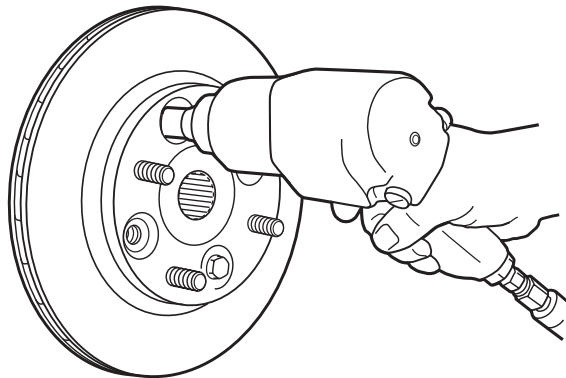

Figure 8
10. Remove the four fasteners holding the hub to the rotor, and separate the rotor from the hub. See Fig. 8.